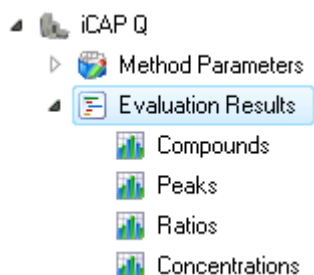

Figure 7-20. Evaluation Results submenus in completed tQuant LabBook
- Click  **Evaluation Results** to open the **Evaluation Results** view, for example, see Figure 7-20.